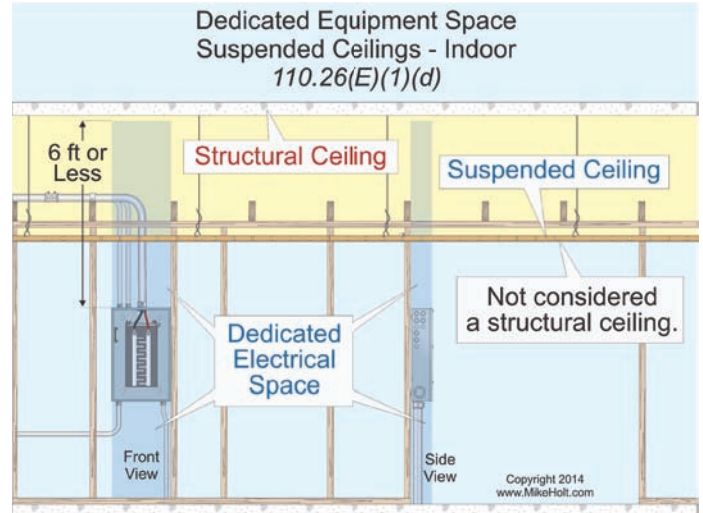

Figure 110-29
**(d) Suspended Ceilings.** A dropped, suspended, or similar ceiling isn't considered a structural ceiling. **Figure 110-29**
**(2) Outdoor.** Outdoor installations must comply with 110.26(E)(2)(a) and (b).